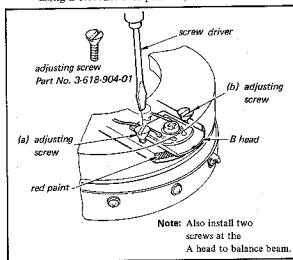

Fig. 4-5. Video head dihedral adjustment
This adjustment requires the use of the SONY alignment Tape and the four adjusting screws shown in Fig. 4-5. The adjusting screw has a tapered head which bears against the base of the head when turned clockwise, thus forcing the head to move laterally. The thread of this screw is different from that of any conventional screw.
5. Position the B head so that the threaded adjusting-screw holes are accessible through the cutout in the upper drum. See Fig. 4-5.
10. First, loosen the (a) adjusting screw about a quarter turn counterclockwise and tighten the (b) adjusting screw a quarter turn clockwise. See Fig. 4-5.